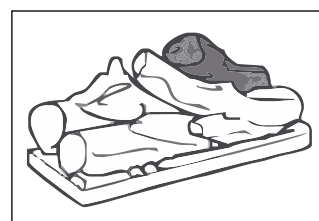

FIG 21
d) Place log #4 on single right back pin, ensure left side of log rests on depression in #3 log. Refer **FIG 21**.